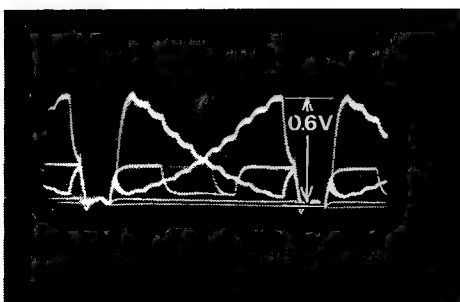

Fig 7.27
- (2) Focus on the grey-scale pattern and adjust the iris control mechanism to achieve a waveform of amplitude 0.6V as shown in Figure 7.27
- (3) Remove the RC jumper.